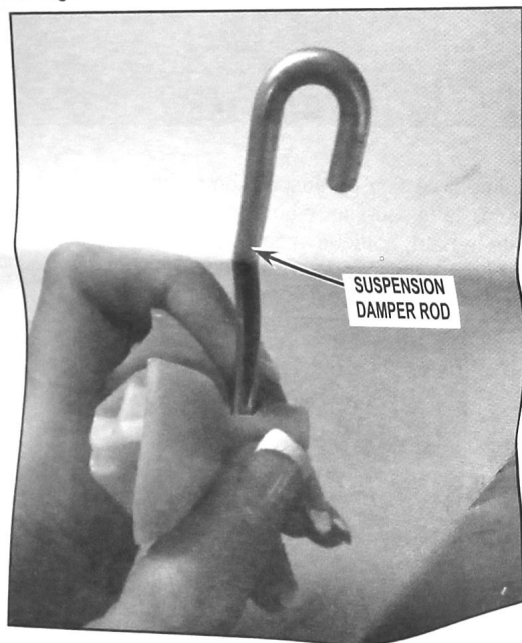

FIGURE 2
3. Align the suspension damper rod in the suspension ball slot. See Figure 2.